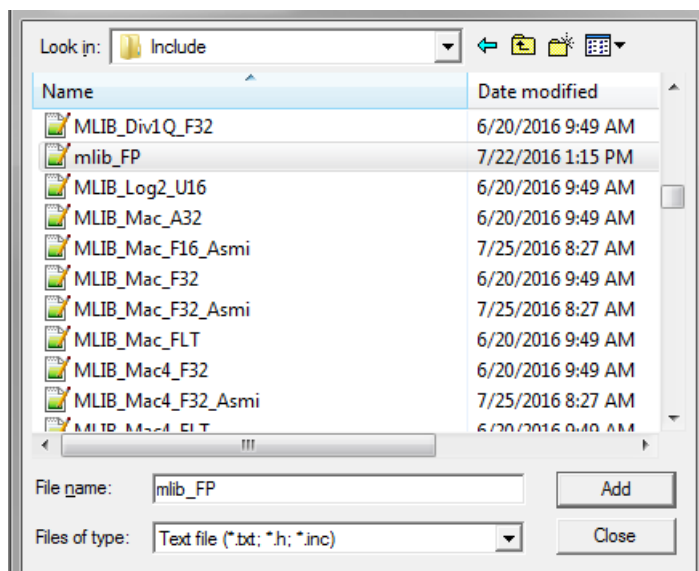

Figure 1-21. Adding .h files dialog
- Navigate into the library installation folder C:\NXP\RTCESL\CM33F_RTCESL_4.6_KEIL\MLIB\Include, and select the *mllib_FP.h* file. If the file does not appear, set the Files of type filter to Text file. Click Add. See Figure 1-21.